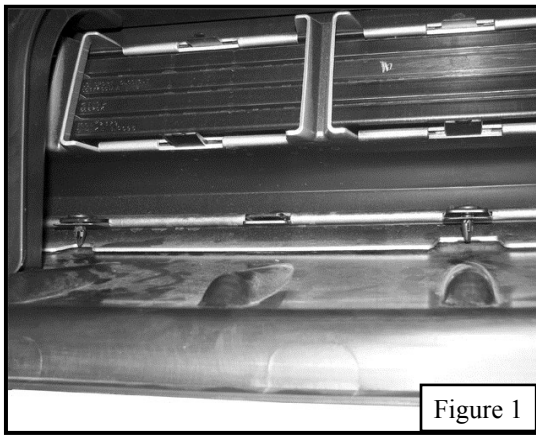

Figure 1
2. Remove the bottom splash guard from the front bumper by removing the screws and push-clips at the top edge of the splash guard. Some vehicles will have two rivets at the outer edges of the splash guard. Drill with a 1/4" drill bit to remove. **(Figure 1)**